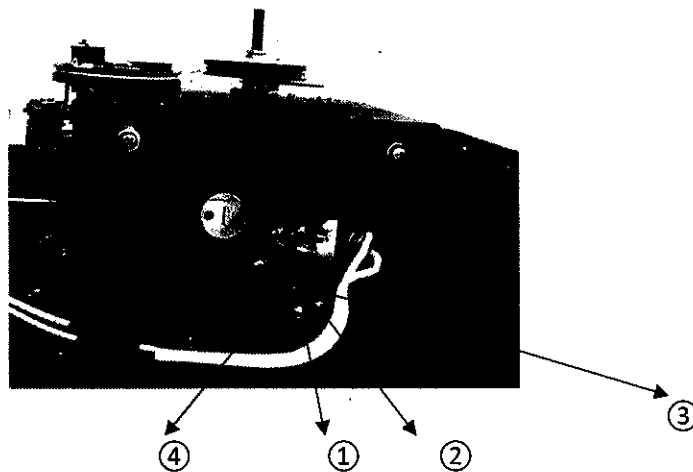

Fig. 2-4
- 8) Unscrew ① & ② in Fig.2-4, then unscrew ③ & ④. Unplug and remove the lamp from ceramic base (the white connector). Insert the new lamp; pushing it in as far as it will go. Then tighten screw ③ & ④.